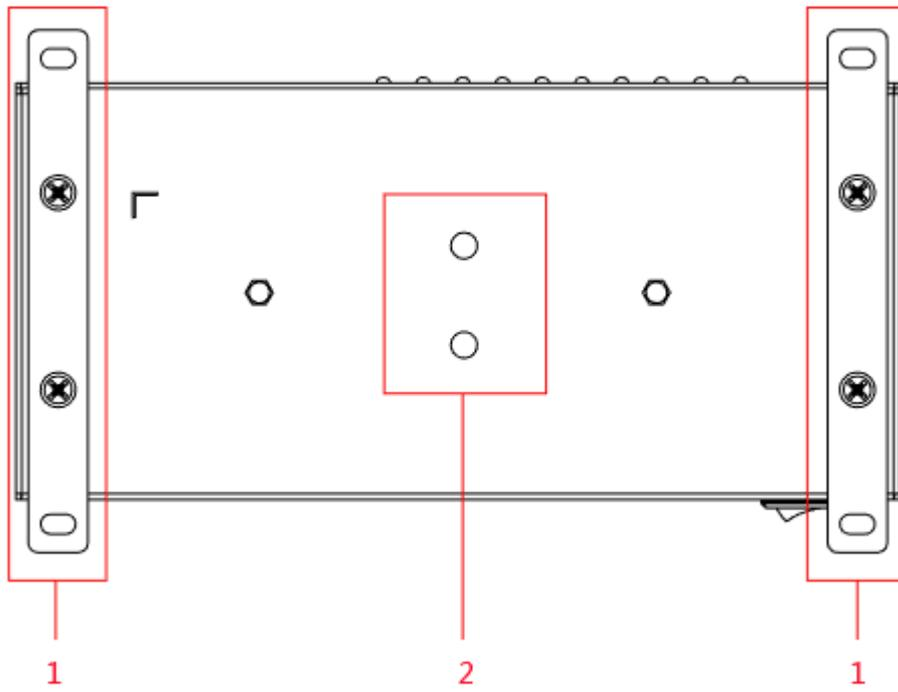

Figure 3-2
Step 1. Please remove position 1 at rear of switch, and install slide way at position 2, see Figure 3-2.